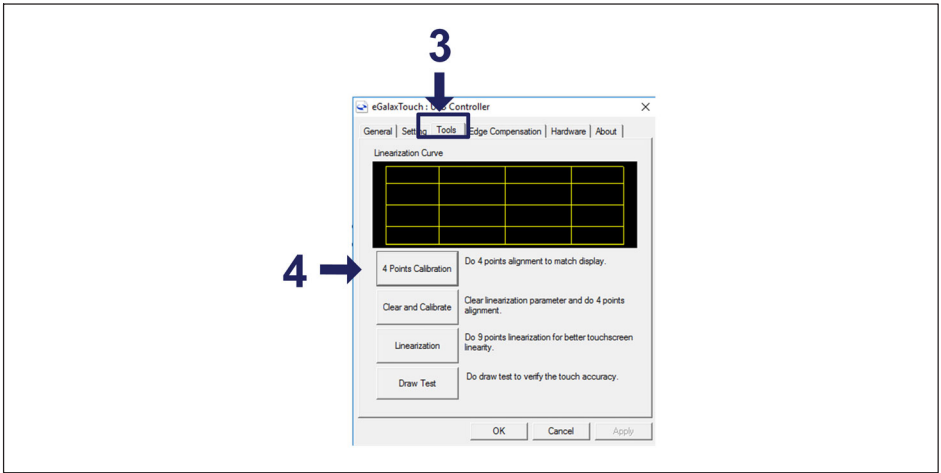

Fig. 3.14 Screen calibration setup
- ▶ After loading the utility, select the tab **Tools** (**3** in Fig. 3.14) and then press the **4 Points Calibration** button (**4** in Fig. 3.14) to start the screen calibration.